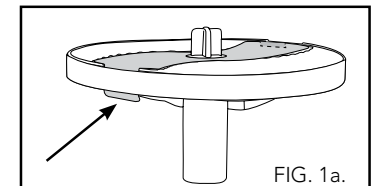

FIG. 1a.
- Hold the disc with one hand and with the other hand push the long locking clip inwards until the blade pops up as illustrated in Fig. 1a and 1b.